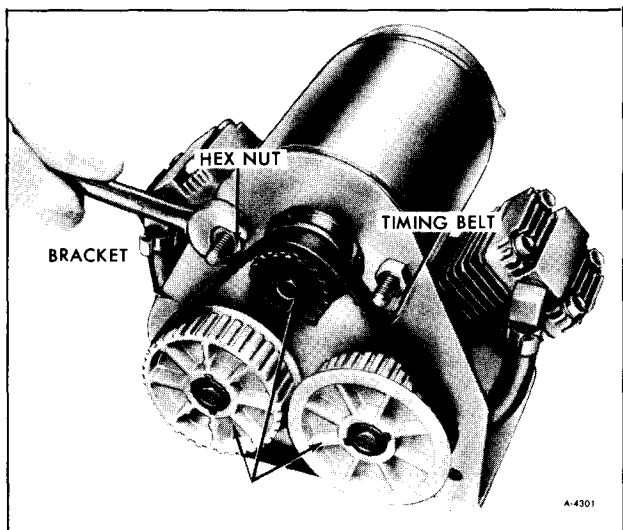

Figure 43—Motor Removal
3. Remove two hex nuts that hold motor to bracket and remove motor (figure 43).